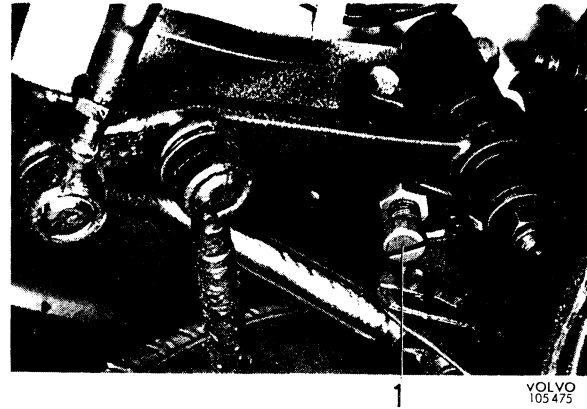

Fig. 6-11. Adjusting screw, max. wheel lock
Turning of the wheels is limited by stop screws, at the pitman arm for left-hand driving and at the relay arm for right-hand driving, see Fig. 6-11.
1. Turn the left wheel for a left-hand turn as far as it goes. Check that the lock angle of the wheels is $38-40^\circ$. If it is not, then adjust to this value with the stop screw (Fig. 6-11) at the pitman arm.